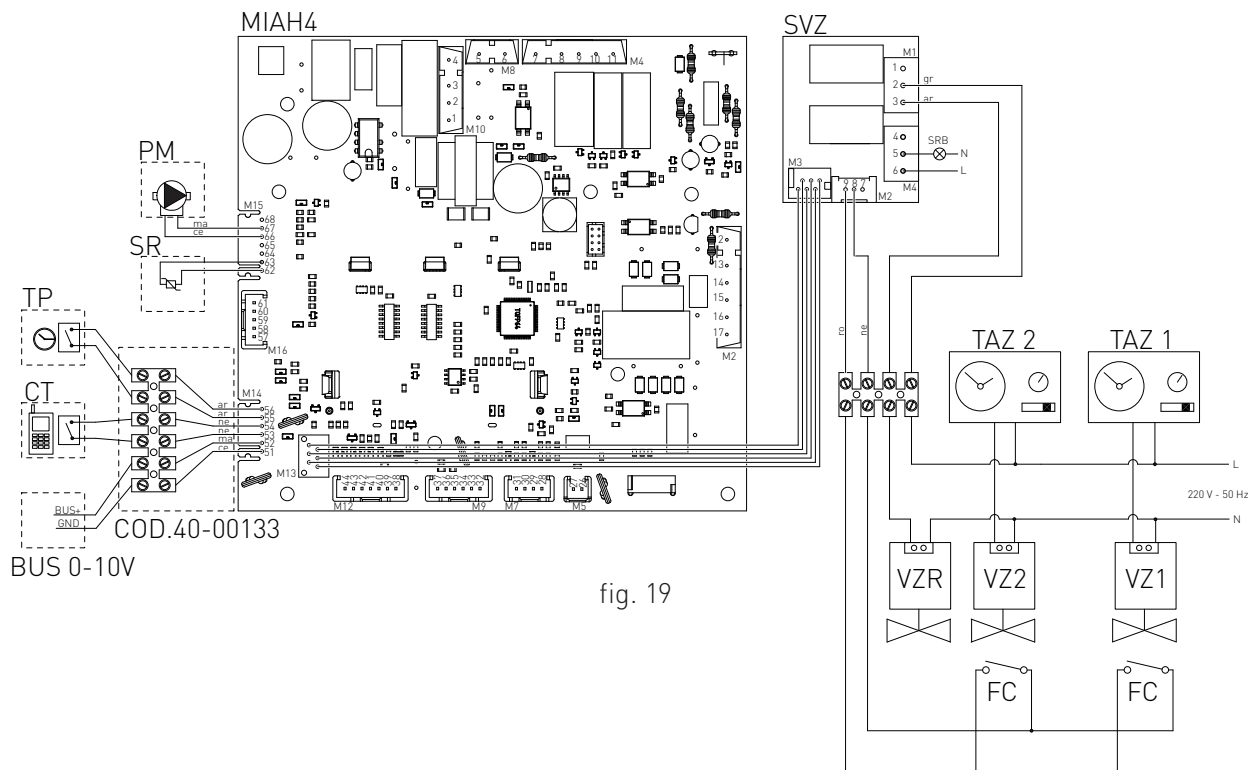

fig. 19
- (PM) MODULATING PUMP
- (TP) DOMESTIC HOT WATER PRE-HEATING DEACTIVATION TIMER
- (CT) TELEPHONE DIALER
- > After removing the crankcase, connect the items below to the electronic board (see fig. 19):